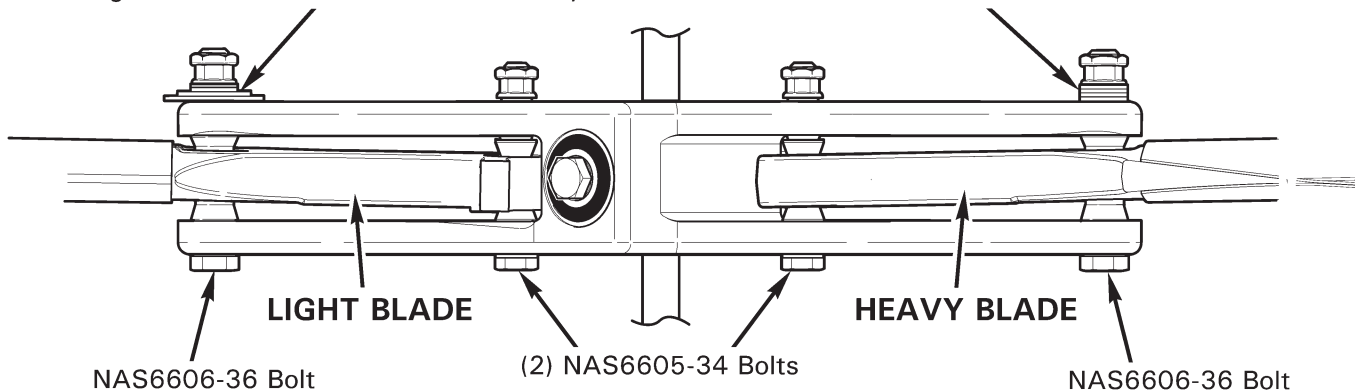

FIGURE 64-3 SPANWISE STATIC BALANCE
1. Refer to Figure 64-3. Install standard hardware for initial spanwise static balance check. Standard torque fasteners per § 20-32.